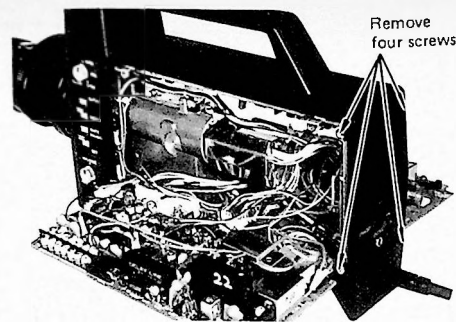

Fig. 7-4
- Remove the rear cover by removing the four fixing screws. (Fig. 7-4)